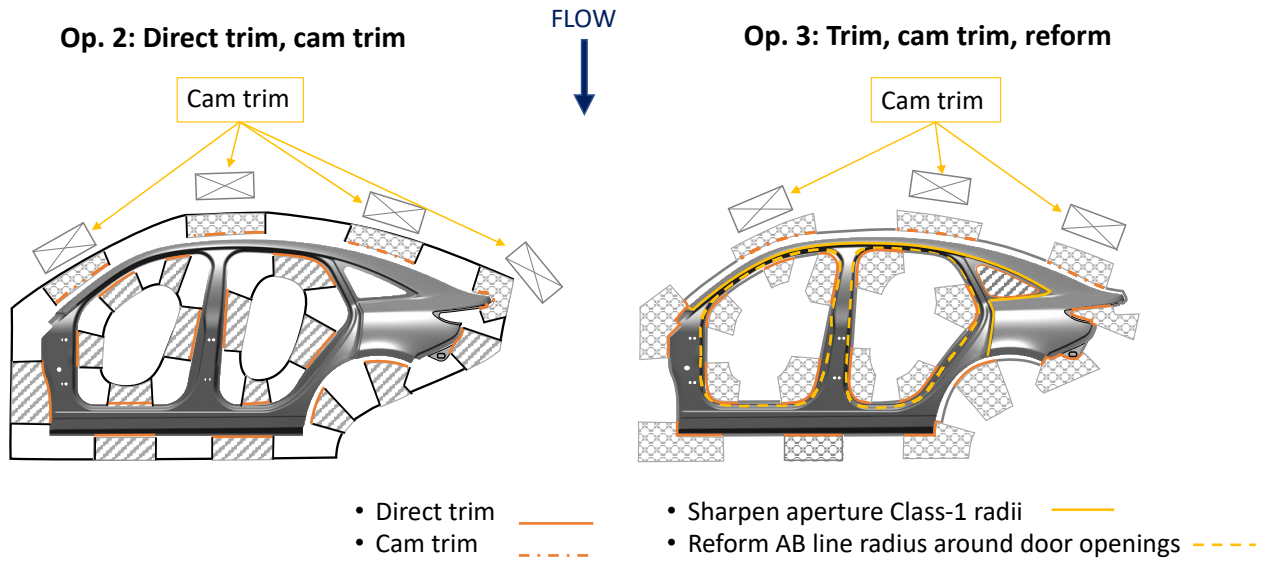

Figure 5: “Chunking” strategy for a DOP, in Ops.2 & 3
4. Sequencing the chunk trimming to minimize rotation, saving the corner pieces for the second trim. (Figure 5)